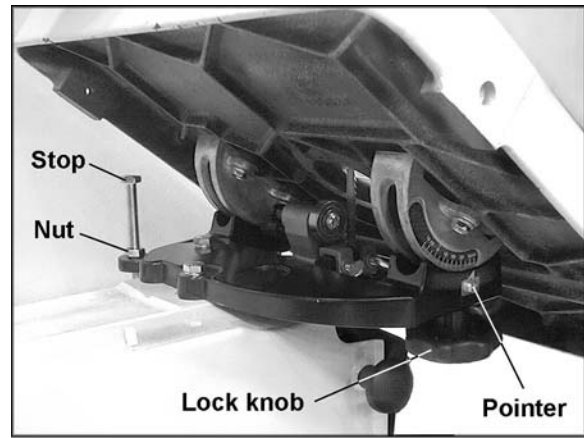

Figure 26
1. Loosen two lock knobs (Figure 26).
3. Tighten two lock knobs (Figure 26).
2. Loosen lock knobs (Figure 26) and tilt table left until it rests against the table stop.
5. Loosen jam nut and turn table stop (Figure 26) left or right to raise or lower the stop. Tighten jam nut to hold table stop in place.